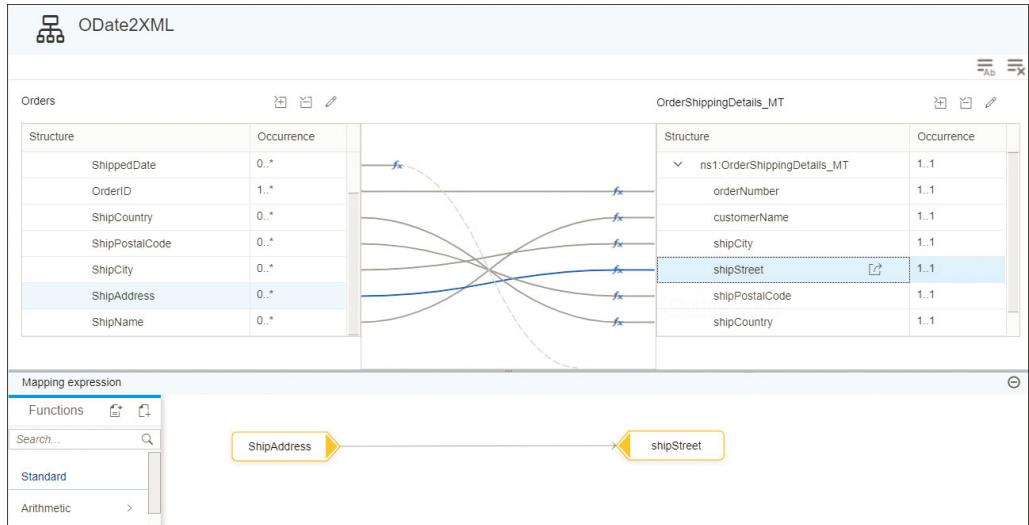

Figure 9.3 Mapping Editor with the Details of the Mapping to Be Enhanced
5. Select an element on the target message structure (e.g., the `shipStreet` field as shown in Figure 9.3). Notice that a section called **Functions** appears on the bottom-left corner of the mapping editor (see Figure 9.3).